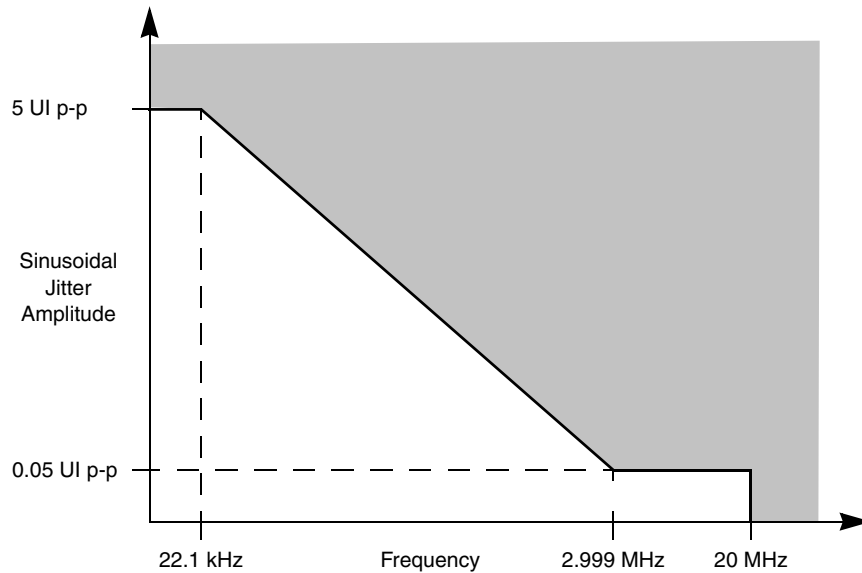

Figure 46. Single Frequency Sinusoidal Jitter Limits for Baud Rate 5.0 Gbps
**Note:** The AC specifications do not include REF\_CLK jitter. The sinusoidal jitter in the total jitter tolerance may have any amplitude and frequency in the unshaded region of Figure 46. The ISI jitter (R\_CBHPJ) and amplitude have to be correlated, for example, by a PC trace.